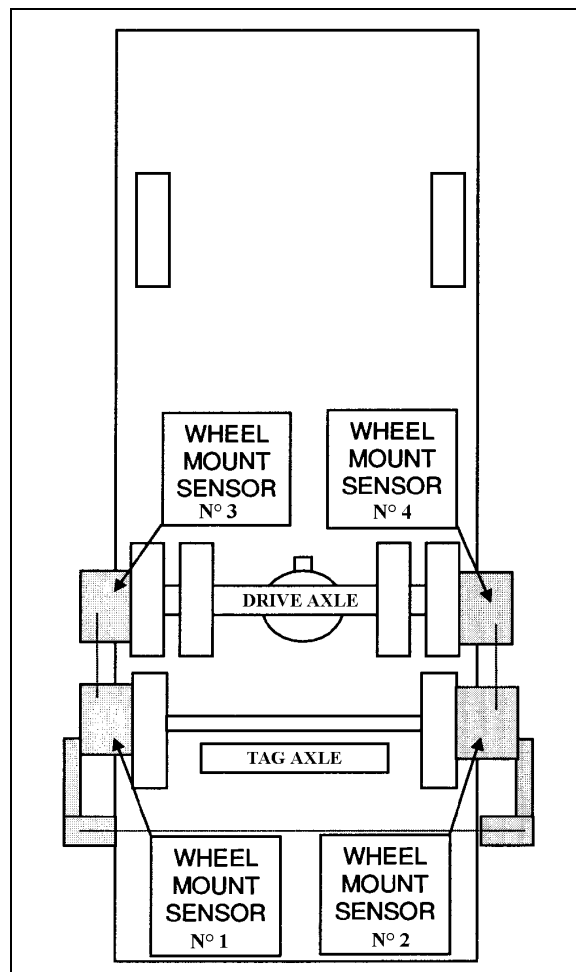

FIGURE 8: TAG AXLE ALIGNMENT 11026
- Remove and reinstall all wheel mount sensors on the drive and tag axes (fig. 8);
Reinstall wheel mount sensors as shown in figure 8.